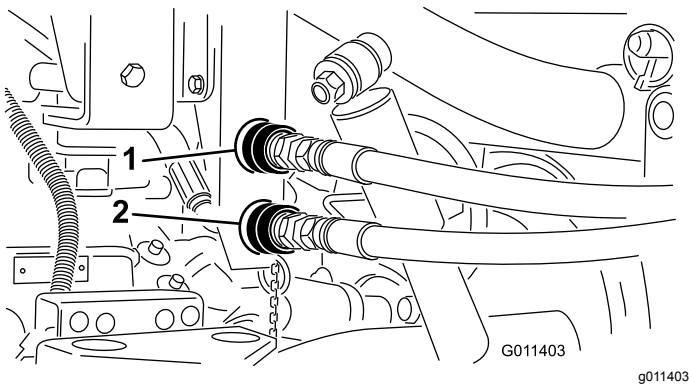

Figure 17
3. Clean any dirt from the topdresser quick couplers (Figure 17) before connecting them. Dirty couplers can introduce contamination to the system. After cleaning, attach both quick couplers to the Workman. The hoses are marked "A" and "B", match them to the quick couplers when installing. Ensure that both quick couplers are full engaged.
Note: The couplers shown in Figure 17 are from vehicles with serial numbers prior to 239999999.